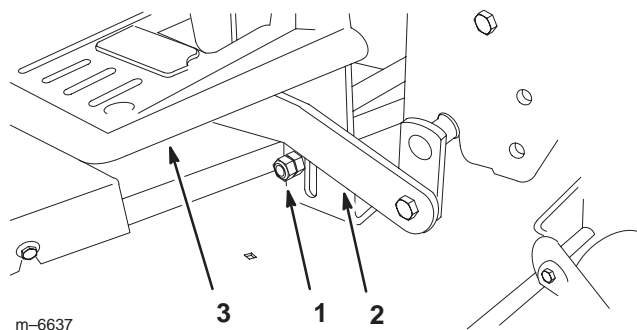
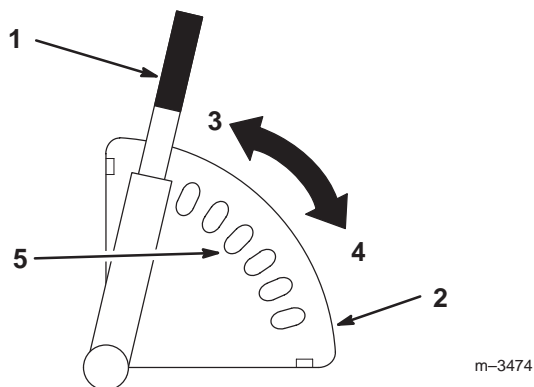

Figure 17
Figure 23
1. Raise the mower to the highest height-of-cut (Fig. 23) and check if the transport level stops contact the bottom of the draft bars (Fig. 17).
2. If needed, loosen and adjust the transport level stops so they just contact the bottom of the draft bars (Fig. 17).
- If one of the bumpers does not contact the footrest, adjust the appropriate transport level stop (Fig. 17).
3. Pull the height-of-cut lever out to disengage it from the quadrant (Fig. 23).
4. Adjust the height-of-cut to the desired level (Fig. 23).
5. Release the lever inward to lock it into the quadrant (Fig. 23).